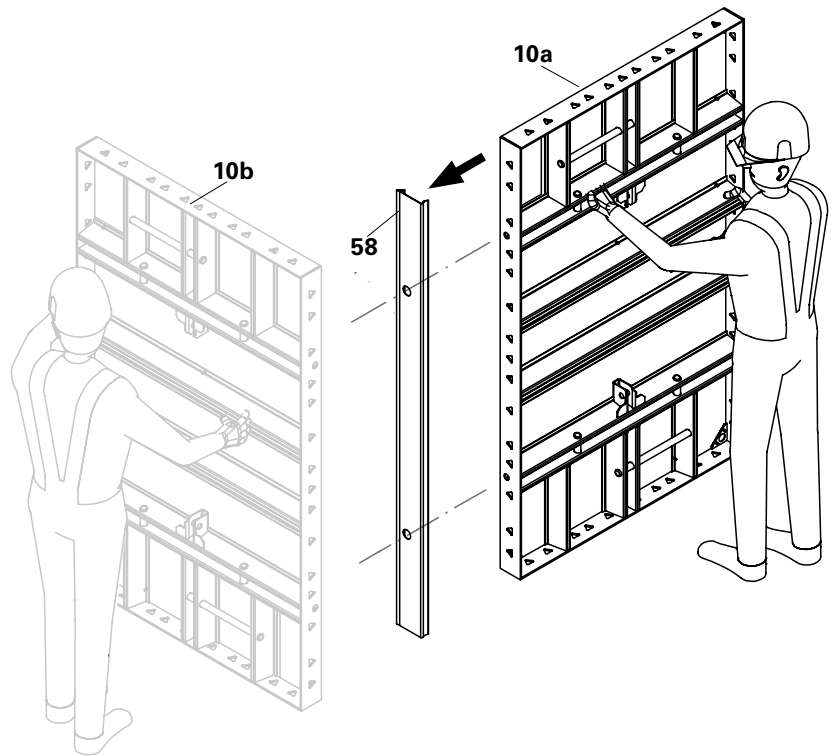

Fig. A8.02
1. Attach the chamfer strip HSA (58) to the longer side of the panel HSA (10a). (Fig. A8.02)